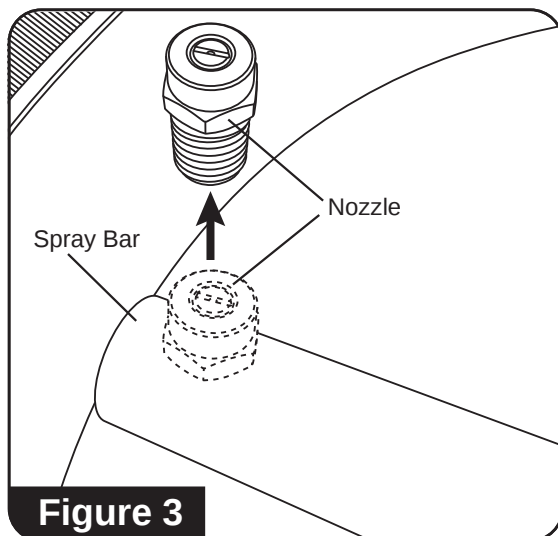

Figure 3
3. Using a 14mm wrench (not provided) remove both nozzles from the spray bar (**See Figure 3**).